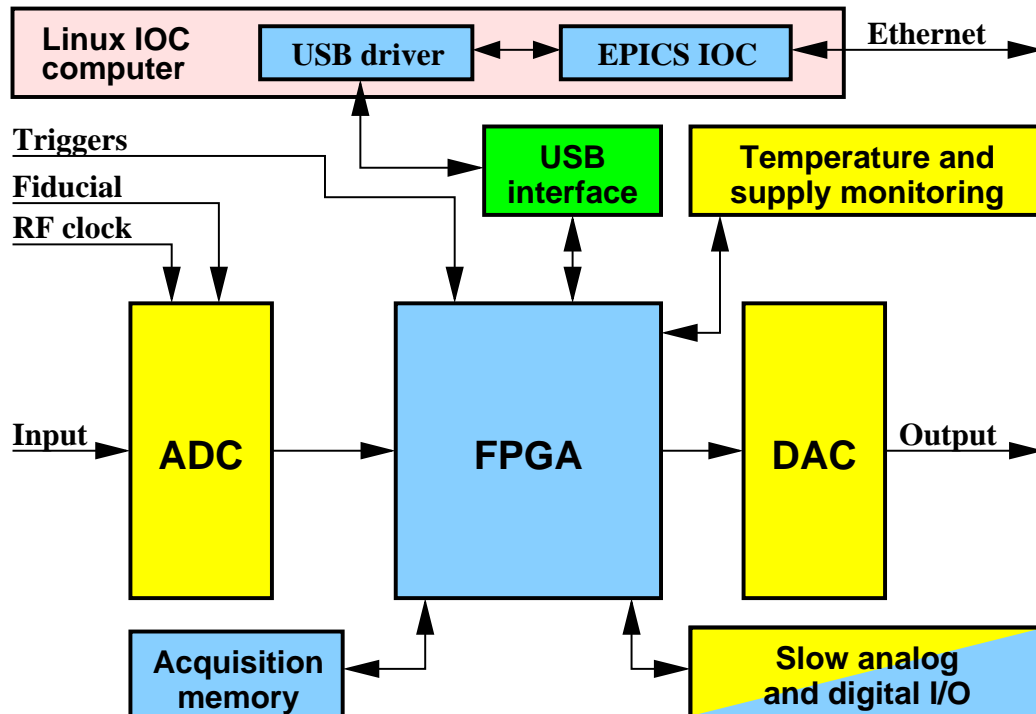

Figure 1: iGp12-328F block diagram
A block diagram of the iGp12-328F system is shown in Figure 1. The main signal processing chain consists of a high-speed 12-bit analog-to-digital converter (ADC), a field programmable gate array (FPGA), and a high-speed 12-bit DAC, all driven by the radio frequency (RF) clock. In addition to performing real-time control computations, the FPGA interfaces to a number of on-board devices, such as high-speed data acquisition memory (static random access memory (SRAM)), low-speed analog and digital input/output (I/O), as well as temperature and supply voltage monitors. In turn, the FPGA uses an internal universal serial bus (USB) connection to communicate to an embedded input-output controller (IOC) computer housed in the same chassis. The IOC runs the Linux operating system and is connected to the overall control system via the Ethernet.